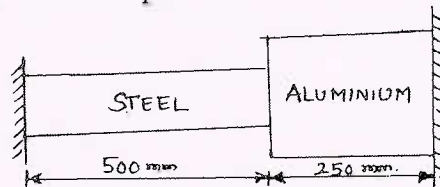

Fig.Q2(b)
- b. A composite bar made up of aluminium and steel is held between two supports as shown in Fig.Q2(b). The bars are stress free at a temperature of 42°C . What will be the stresses in the two bars with the temperature drops to 24°C if (a) the supports are unyielding (b) the supports come nearer to each other by 0.1 mm. The cross sectional area of steel bar is 160 mm^2 and that of aluminium bar is 240 mm^2 . $E_A = 0.7 \times 10^5 \text{ N/mm}^2$, $E_S = 2 \times 10^5 \text{ N/mm}^2$. $\alpha_A = 24 \times 10^{-6} \text{ per } ^\circ\text{C}$ and $\alpha_S = 12 \times 10^{-6} \text{ per } ^\circ\text{C}$ (10 Marks)